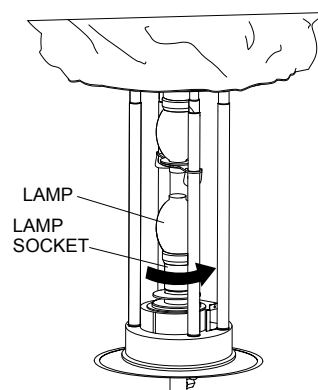

Figure 36. Removing Lamp
4. Remove lamp from the lamp socket by turning lamp counterclockwise. See Figure 36.